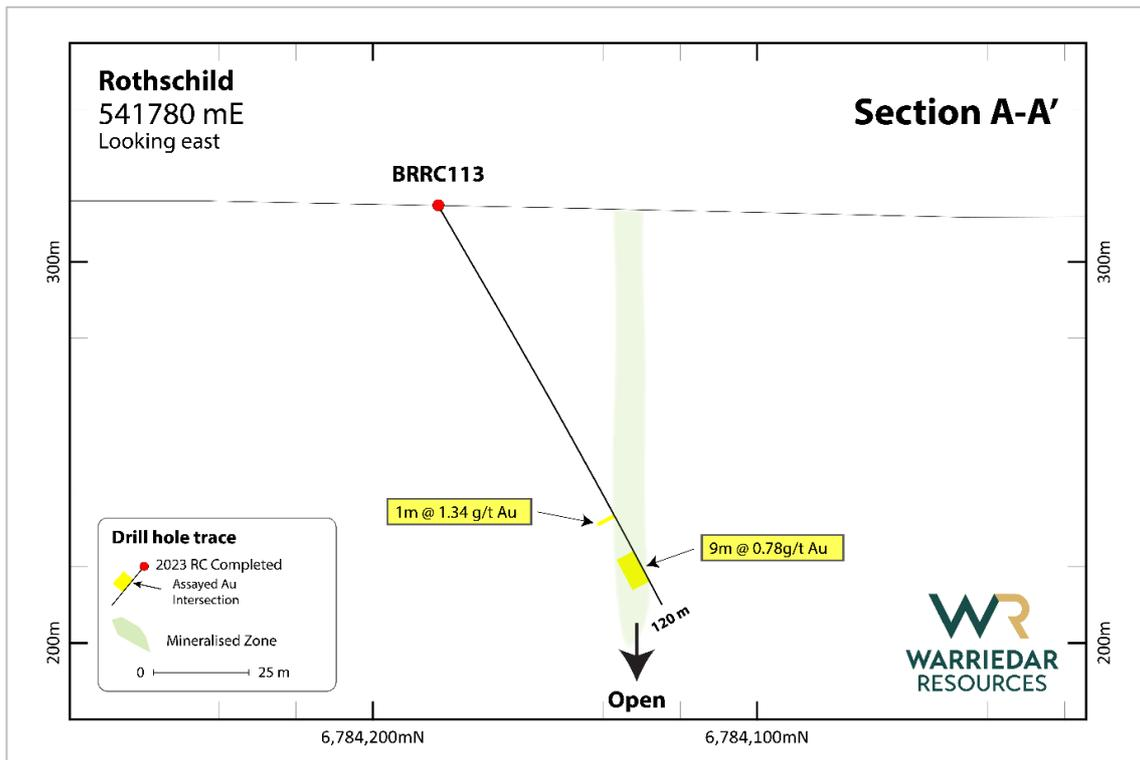

Figure 7: Cross section A-A' through the new Southern lode. See Figure 2 for location.
- **Southern lode:** drilling has confirmed the existence of a second major lode, the Southern Lode. The Southern Lode is located to the south of the Main Lode (see Figure 7, Cross Section A-A’).
Drilling has identified the newly emerging southern lode, see Figure 7 (Cross Section A-A'). There are significant intercepts in holes BRR0112 and BRR0113, demonstrating the initial delineated strike extent of the lode. Based on the results released, holes BRR0108 and BRR0109 are likely to be re-entered and extended.